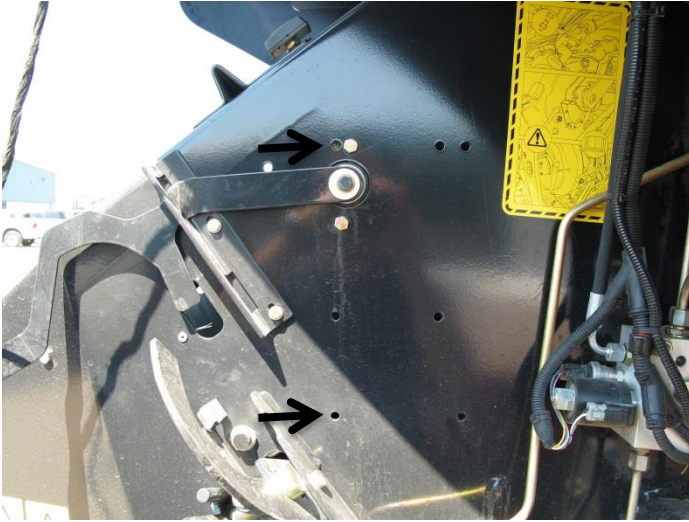

Figure 5
3. Locate the four holes by the fly wheel brake. Figure 5